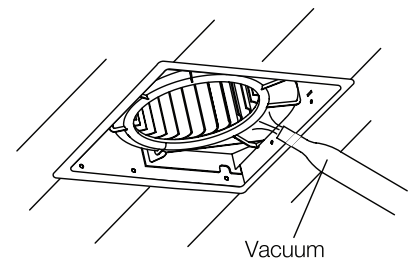

Fig. 8
3. Remove dust and dirt from the fan housing with a vacuum cleaner (Fig. 8).